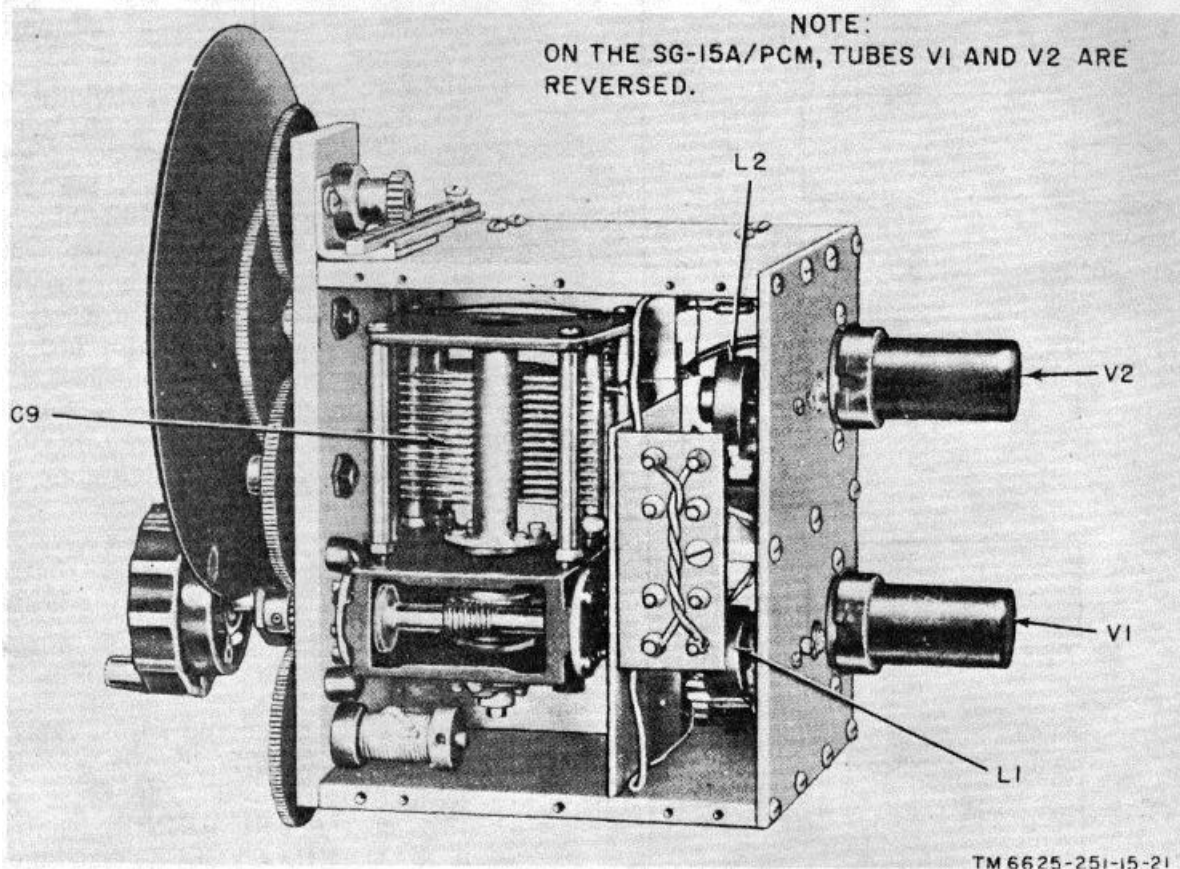

Figure 7-14. Signal Generator SG-15(*)/PCM, bottom of oscillator assembly showing location of parts.
- (3) Replace the oscillator assembly cover and adjust the ZERO BEAT ADJ control for zero beat.
b. After Replacing Tube V1. If tube V1 (fig. 7-14) is replaced, readjust the ZERO BEAT ADJ control for zero beat.
a. After Replacing Tube V2. If tube V2 (fig. 7-14) is replaced, normally it will be necessary to readjust the ZERO BEAT ADJ control for zero beat (para 3-5). However, there will be a minor loss in calibration accuracy. Do not replace tube V2 unless it is absolutely necessary.
capacitor C9 (fig. 7-14) is replaced, however, there also will be a loss of calibration accuracy of the KILOCYCLES dial. Do not replace capacitor C9 unless it is absolutely necessary. After replacing a capacitor or resistor, proceed as follows:
If capacitor C9 (fig. 7-14) is replaced, there will be a loss of accuracy in the KILOCYCLES dial calibration. Realine the KILOCYCLES dial by following the instructions in paragraph 7-14.
d. After Replacing Coil L2, Signal Generator SG-15/PCM. After coil L2 (fig. 7-14) is replaced, adjustment of capacitors C2 and C10 (fig. 7-14) becomes necessary. Do not replace coil L2 unless it is absolutely necessary. If coil L2 has been replaced, however, use the following alinement procedure:
- (1) With the oscillator assembly cover in place, set the FREQUENCY control for 0 on the KILOCYCLES dial.
- (2) In the fixed-frequency oscillator, adjust trimmer capacitor C2 for zero beat. Check with the oscillator assembly cover in place.
- (3) Advance the FREQUENCY control until the KILOCYCLES dial reads 35 kc.
- (4) Adjust trimmer capacitor C10 in the variable-frequency oscillator until the output frequency measures 35 kc with the oscillator assembly cover in place.
- (8) The zero-beat frequency stamped on the oscillator housing is no longer applicable. Use Frequency Meter (AN/TSM-16) to measure the zero-beat frequencies at pin 5 of tube V9 for the fixed-frequency oscillator and at pin 8 of tube V9 for the variable frequency oscillator. Record these frequencies on the oscillator housing as the new zero-beat frequencies.
e. After Replacing Coil L2, Signal Generator SG-15A/PCM. After coil L2 (fig. 7-14) has been replaced, proceed as follows to aline the oscillator:
- (1) With the oscillator assembly cover in place, set the FREQUENCY control until the KILOCYCLES dial indicates 0.
- (2) Set ZERO BEAT ADJ capacitor C11 to its midposition.
- (3) Remove the cover and adjust capacitor C10 for zero beat. Check with the oscillator assembly cover in place.
- (4) Advance the FREQUENCY control until the KILOCYCLES dial indicates 35 kc.
- (5) Check the frequency at OUTPUT terminals E1 and E2 with Frequency Meter AN/TSM-16. The output frequency should measure 35 kc with the oscillator assembly cover in place.